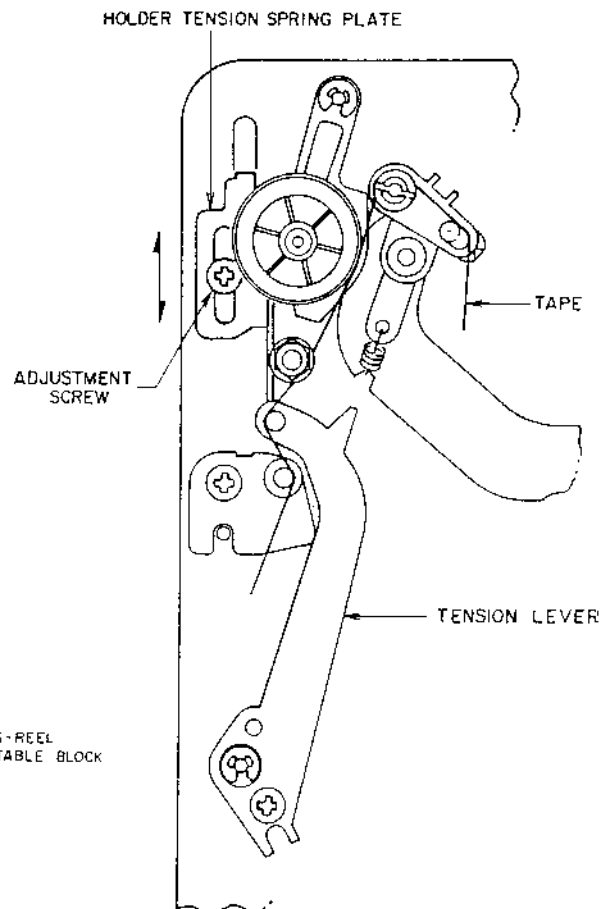

Fig. 5-4
(Refer to Fig. 5-4, 5-5)**
- 3) Loosen the adjustment screw shown in Fig. 5-4, and adjust the Tension Spring Holder Plate so that the back tension will be  $28 \pm 5$ gf-cm, and tighten the adjustment screw.